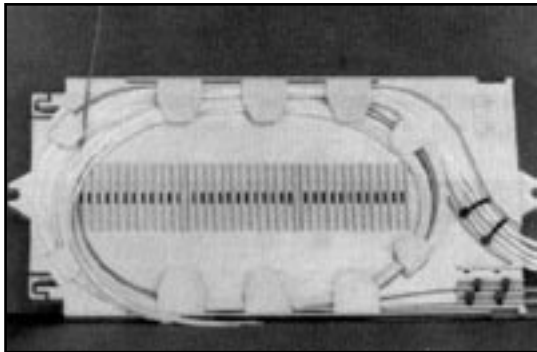

FIGURE 14 - ROUTE FIBERS WITHIN SPLICE TRAY
6.08 Route the pigtail and feeder cable fibers one complete turn around the Splice Tray, and into the splice groove farthest from the entry point of the tubes. (Figure 14)